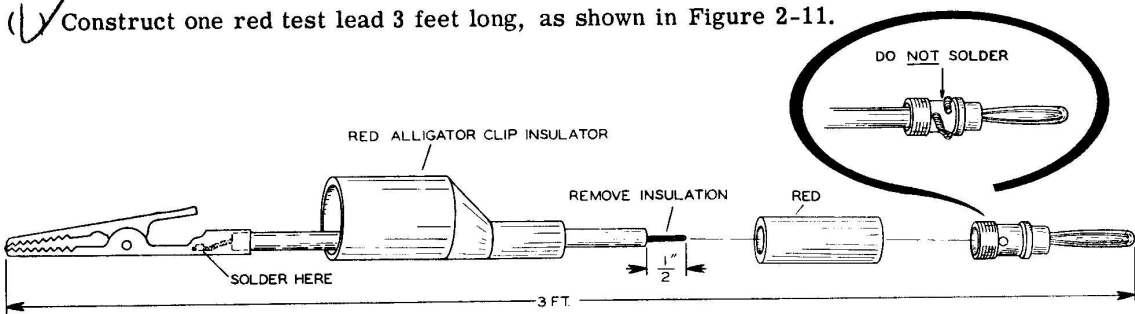

Figure 2-11
(U) Construct one red test lead 3 feet long, as shown in Figure 2-11.